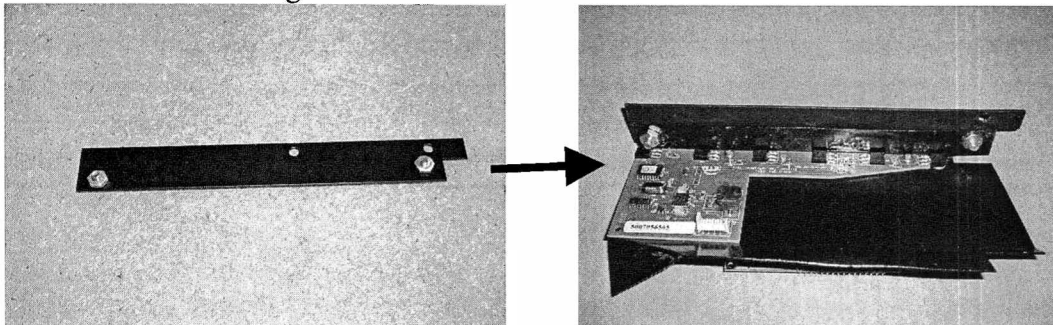

Figure 2.
2. The Receiver Mounting Plate (part # 05-0098-01), included in your VMC kit, will now have to be mounted onto the Receiver board bracket, which is the larger of the two boards. The hardware that is needed is mounted on this bracket for convenience. See figure 2 for orientation.